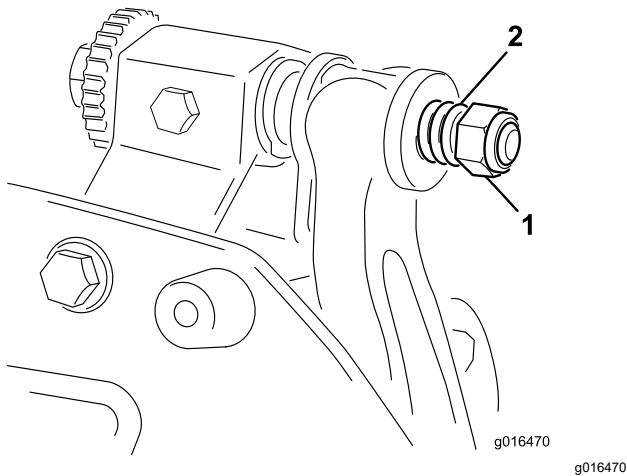

Figure 22
- 6. Tighten the spring tension nut until the spring is collapsed, then back it off 1/2 turn (Figure 22).